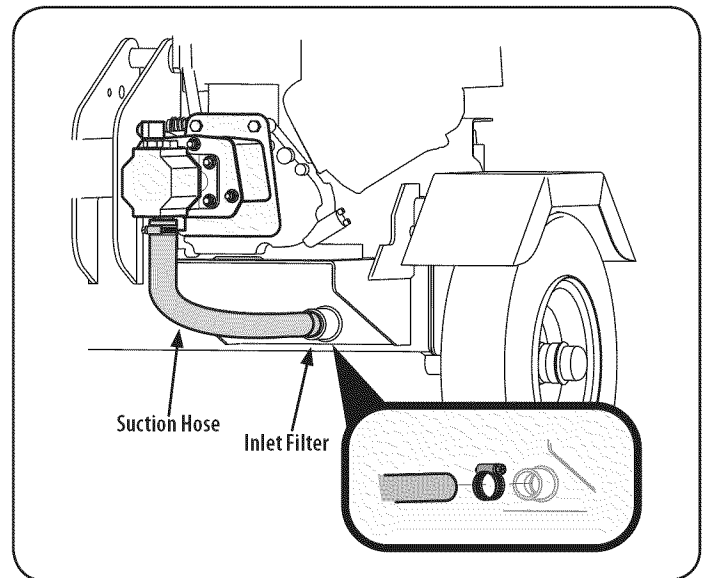

Figure 19
2. Disconnect the suction hose from the bottom of the reservoir tank. See Figure 19.